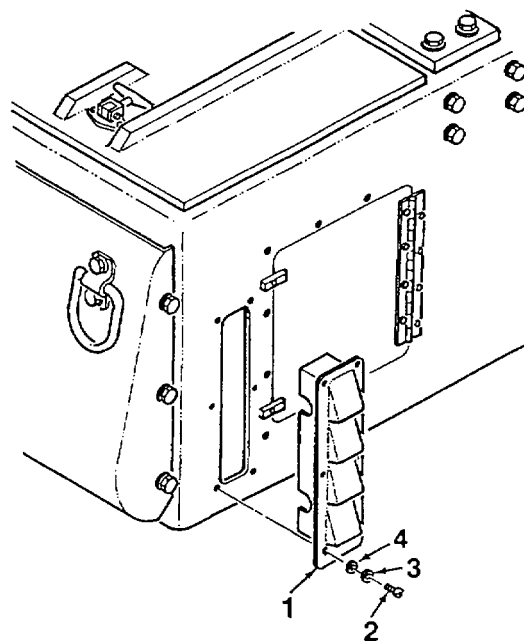

Figure 4-8. Oil Cooler Header using strap.
Remove oil cooler header (1, Figure 4-8) from enclosure side panel by removing six screws (2), lockwashers (3), and washers (4).
1. Mate oil cooler header (1, Figure 4-8) to enclosure side panel. Secure using six screws (2), lockwashers (3), and washers (4).